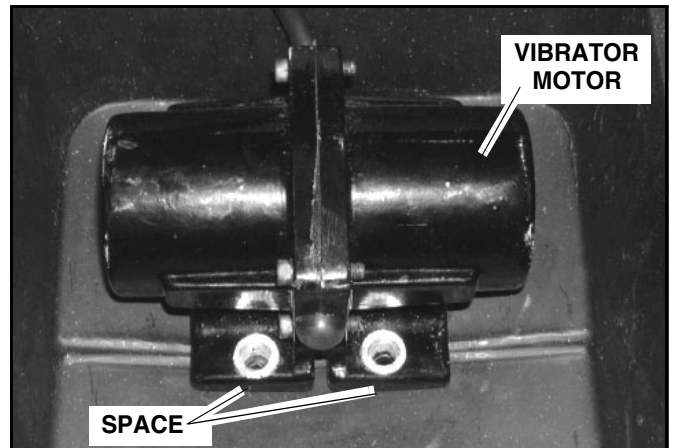

Figure 6
6. Position vibrator motor on motor plate. They will be a small space between the vibrator motor base and motor plate on the two holes shown (See Figure 6).